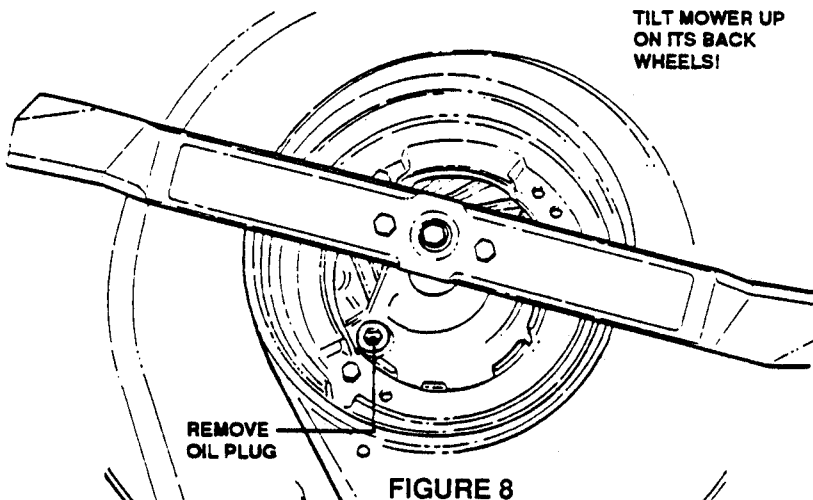

FIGURE 8
1. Tilt mower up on its back wheels to remove oil drain plug from underneath. See Figure 8.